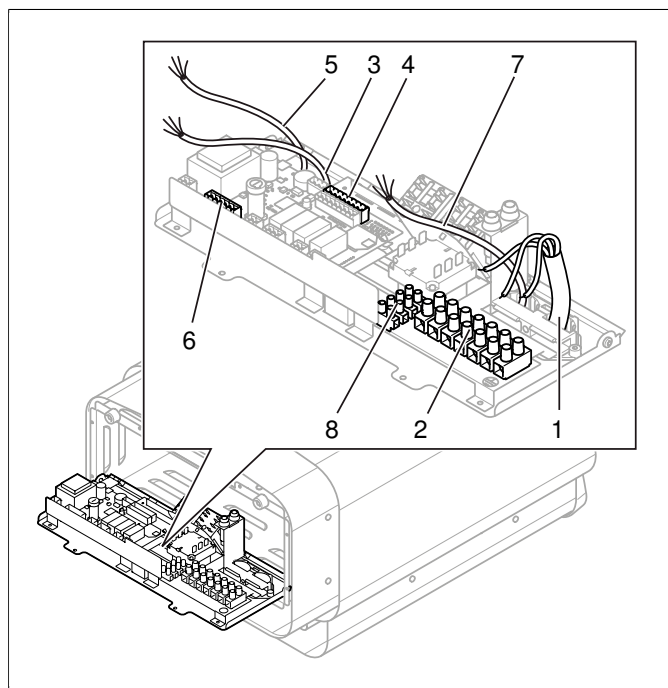

**Figure 9:** Circuit board
Connect the electrical cable (1) to terminal (2) (see **Figure 9**, Page 5) according to wiring diagram (see The section called **Connection/wiring diagram**, Page 8).
4. Connect the control panel cable (3) to terminal(4) (see **Figure 9**, Page 5) according to wiring diagram (see The section called **Connection/wiring diagram**, Page 8).
5. Connect the sensor cable (5) on the terminal (6) (see The section called **Connection/wiring diagram**, Page 8) according to the wiring diagram (see The section called **Connection/wiring diagram**, Page 8).
6. Connect light cable (if relevant) (7) see **Figure 9**, Page 5 to terminal (8) according to the wiring diagram **Figure 19**, Page 8.